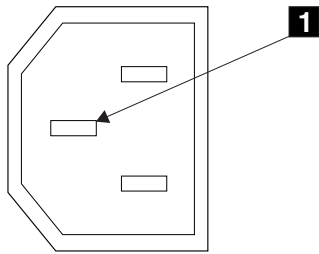

Figure 2. Ground pin
6. Check for continuity between the frame of the SAN Volume Controller 2145-8F2 and the ground pin of each main power connector. The ground pin is shown as **1** in Figure 2 on page xxiv.